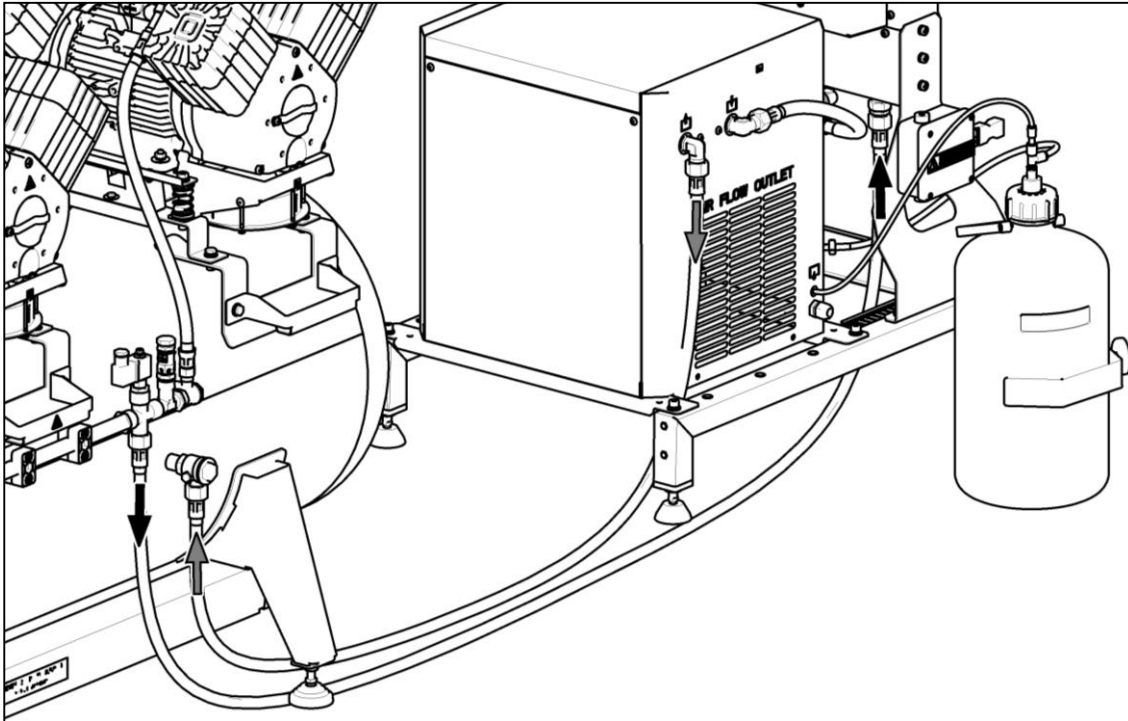

Fig. 7
- Connect the compressor assembly using the hoses (included with delivery). (Fig. 7)